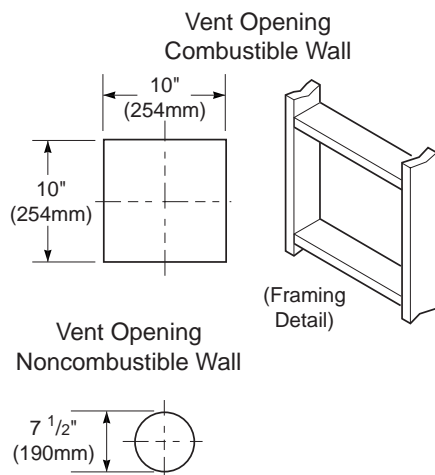
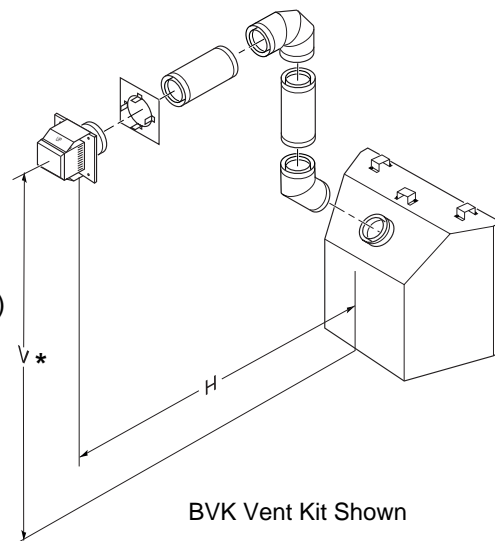
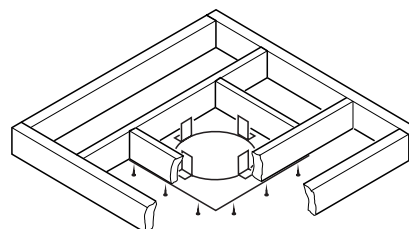

Figure 12 - Vent Opening Requirements
Figure 17 - Horizontal Termination Configuration for Rigid Venting Using One 90° Elbow
Figure 22 - Installing Firestop
- Attach vent pipe assembly to the fireplace. Set fireplace in front of it's permanent location to insure minimum clearances. See page 10, Figure 16 for minimum clearances for vertical on rigid vent pipe, and page 10, Figure 17 on flexible vent pipe. Mark the wall for a 10" square hole (for noncombustible material such as masonry block or concrete, a 7 1/2" diameter hole is acceptable). See Figure 12. The center of the hole should line up with the center-line of the horizontal rigid vent pipe. Cut a 10"x10" (254mm x 254mm) square hole through combustible exterior wall (7 1/2" [190mm] diameter hole if noncombustible). Frame as necessary (see Figure 12).
Note: Figure 17 applies to rigid venting only.
1. Cut a 10" square hole in the ceiling using the locating hole as a center point. The opening should be framed to 10"x10" (254mm x 254mm) inside dimensions, as shown in Figure 12 on page 9 using framing lumber the same size as the ceiling joists. If the area above the ceiling is an insulated ceiling or a room, nail firestop from the top side. This prevents loose insulation from falling into the required clearance space. Otherwise, install firestop below the framed hole. The firestop should be installed with no less than three nails per side (see Figure 22).
3. Cut a hole in the roof using the locating hole as a center point. (Cover any exposed open vent pipes before cutting hole in roof.) The 10"x10" hole must be measured on the horizontal; actual length may be larger depending on the pitch of the roof. There must be a 1" clearance from the vent pipe to combustible materials. Frame the opening as shown in Figure 12 on page 9.